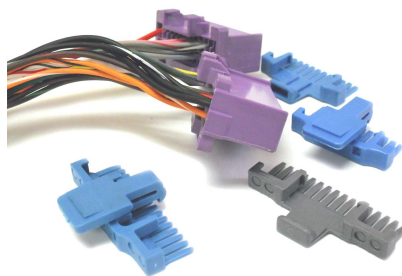
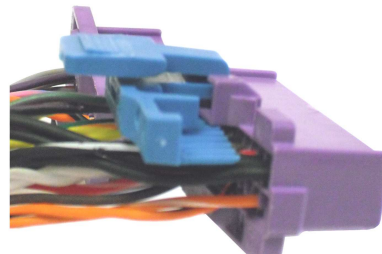

Figure 4
Figure 5
2. In order to minimize the hole-size required to feed the harness through, we have shipped the harness without installing the locks for the connectors. There are (3) blue and (1) gray lock (See Figure 4). Carefully insert the locks one at a time, paying close attention to their proper alignment (See Figure 5). When the locks have been pushed in completely the lock clips will be engaged and will not pull back out (See Figure 6). Repeat this step for all four locks.